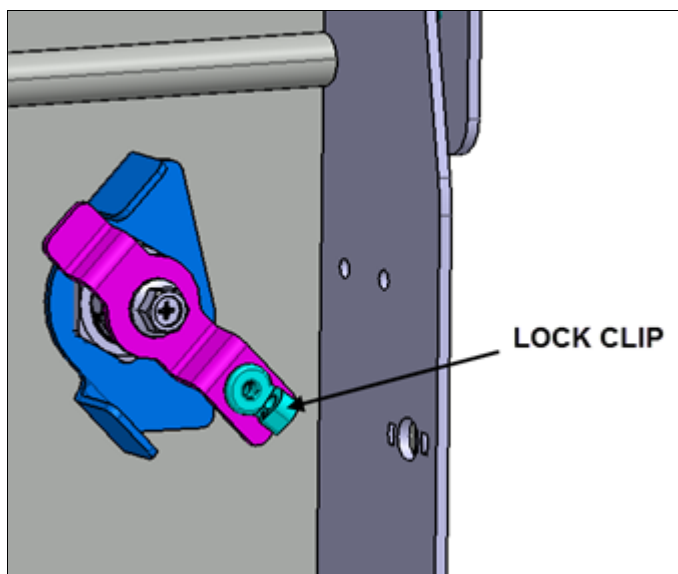

FIG.11 LOCK CLIP INSTALLATION
11. Insert the plastic clip in the latch perforated tab (Fig.11).